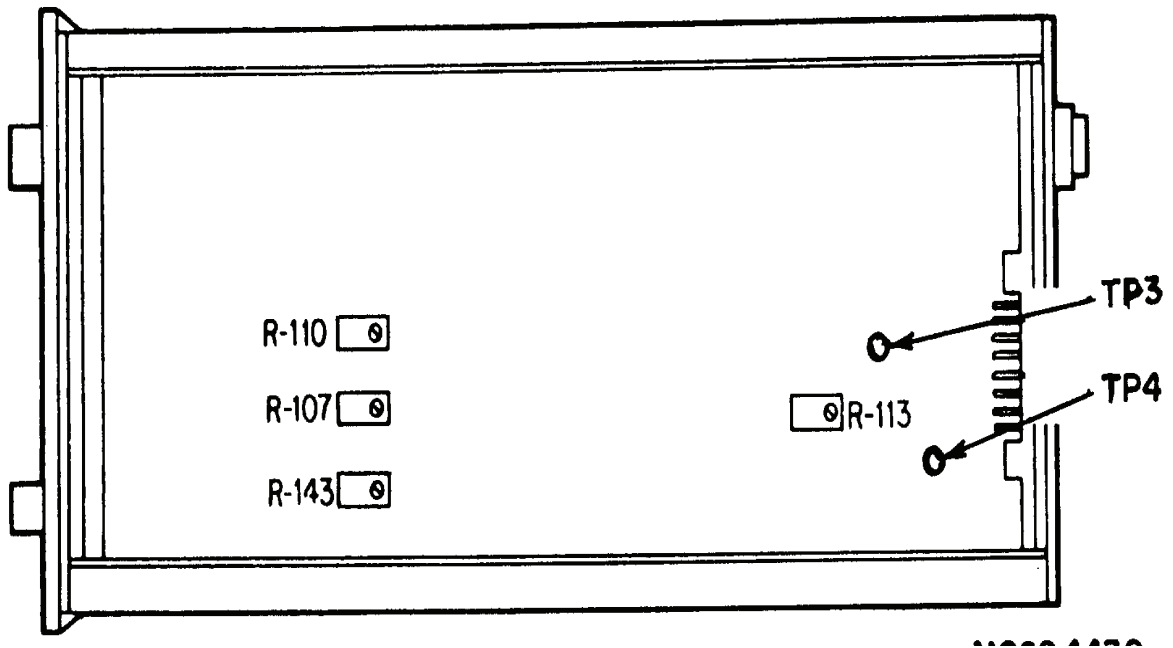

Figure 4. Model 13-4618-00 - side view.
(1) Connect multimeter negative lead to TP3 and positive lead to TP4 (fig. 4).
(2) Set **DEVIATION RANGE** switch to **OFF**. If multimeter does not indicate 0 ± 10 mV, perform **b** (1) below.
(3) Connect calibrator to TI input (rear) connector pins 1 and 2.
(4) Set **DEVIATION RANGE** switch to **.5**.
(5) Set calibrator for a 10 V at 50 Hz output. If multimeter does not indicate 0 ± 100 mV, perform **b** (2) below.
(6) Set **CENTER FREQUENCY** switch to **60**.
- (1) Adjust R-113 ZERO (fig. 4) for 0.0 V indication on multimeter (R).
- (2) Adjust R-110 50 HZ (fig. 4) for 0.0 V indication on multimeter (R).
- (3) Adjust R-107 60 HZ (fig. 4) for 0.0 V indication on multimeter (R).
- (4) Set **DEVIATION RANGE** switch to 5.
- (5) Adjust calibrator for 10 V at 55 Hz output and adjust R-107 60 HZ (fig. 4) for a multimeter reading of -2.500 V (R).
- (6) Adjust calibrator for 10 V at 65 Hz output and adjust R-143 SPAN (fig. 4) for a multimeter reading of +2.500 V (R).
- (7) Repeat (5) and (6) above to eliminate interaction.
- (8) Slide all manual ink valves with tubing attached to **OFF** position on recorder.